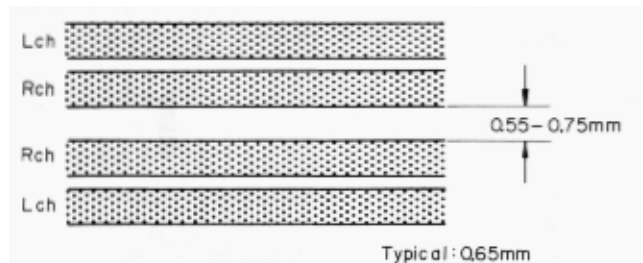

Fig. 5.13
(2) Record Head Height Adjustment and Azimuth Alignment
- (g) Immerse the recorded tape in a magnetized develop ing solution. In turn, check to insure that the recording head tracks across the center are separated with a distance of 0.55 to 0.75 mm (typically 0.65 mm) as illustrated in Fig. 5.13.